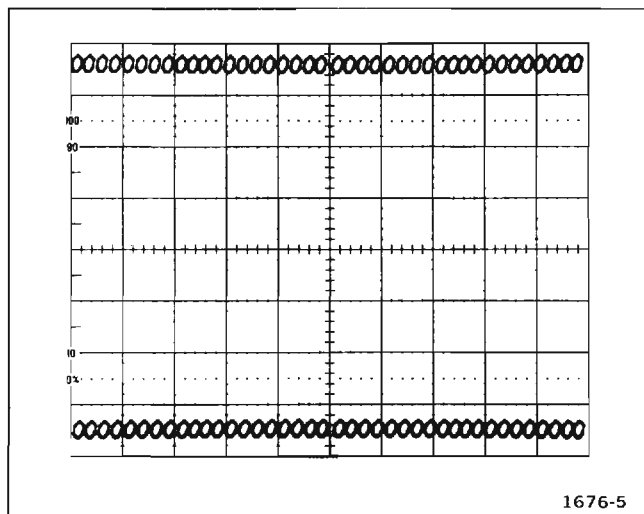

Figure 5-2. Readout display with Q2225 removed.
- e. **EXAMINE**—The crt display for two rows of zeros, 40 zeros to a row with no character overlap. The two rows of zeros should be located vertically in the middle of the top and bottom divisions of the graticule (see Fig. 5-2).